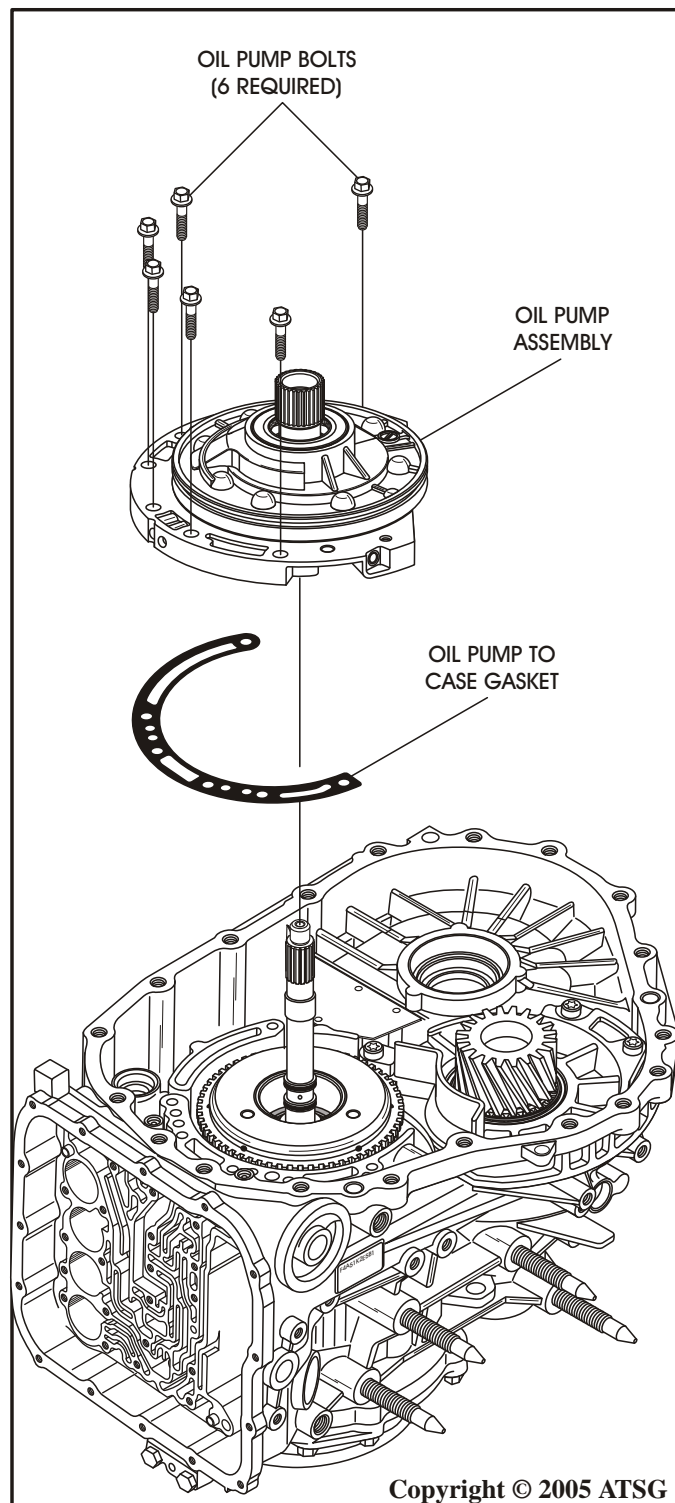

Figure 40
26. Remove the six oil pump retaining bolts, as shown in Figure 40, and remove the oil pump assembly.
28. Remove and discard the oil pump to case gasket, as shown in Figure 40.